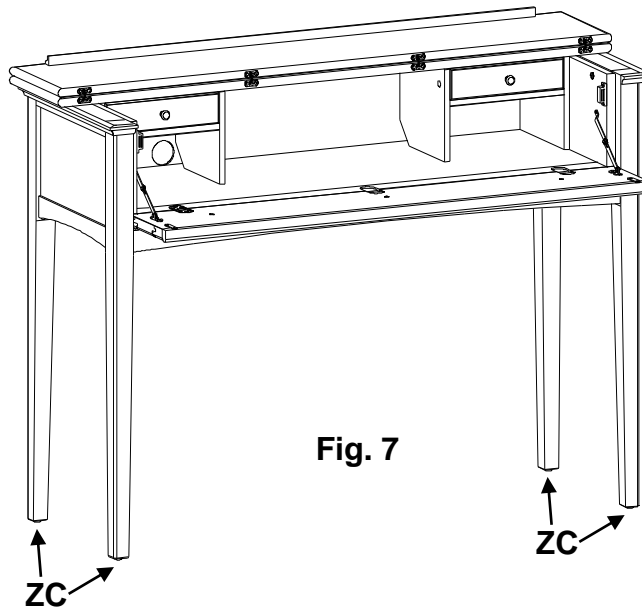

Fig. 7
- Insert the Hutch Drawers (H). Place the console at its final destination. Rotate the Adjustable Glides (ZC) found at the bottom of each leg until the unit is level. See Figure 7.